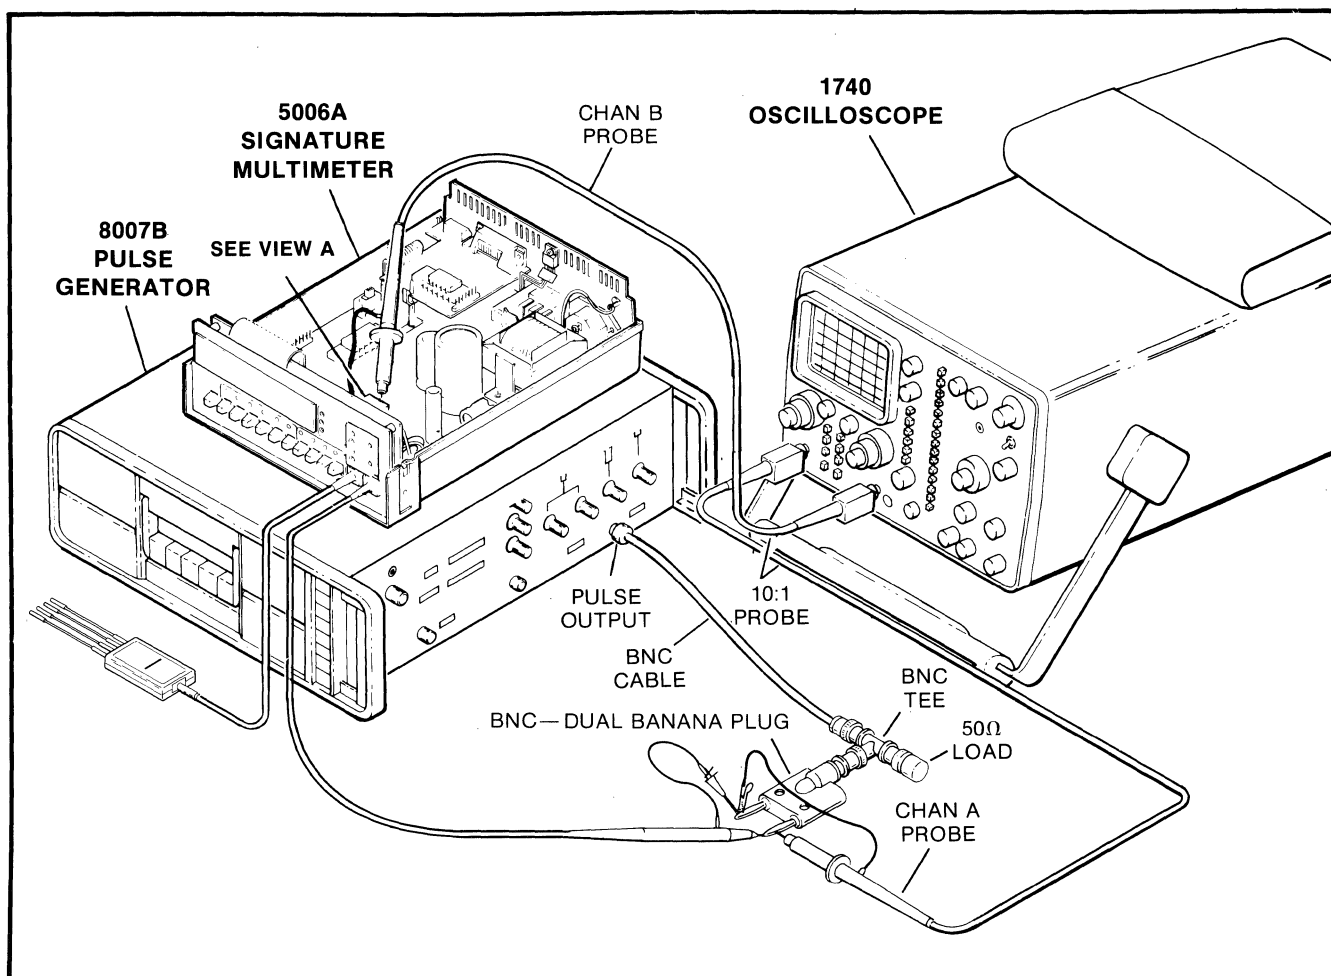

Figure 5-2. Input Compensation Adjustment Setup
- a. Set up the equipment as shown in Figure 5-2, using the shortest cables and ground leads available.